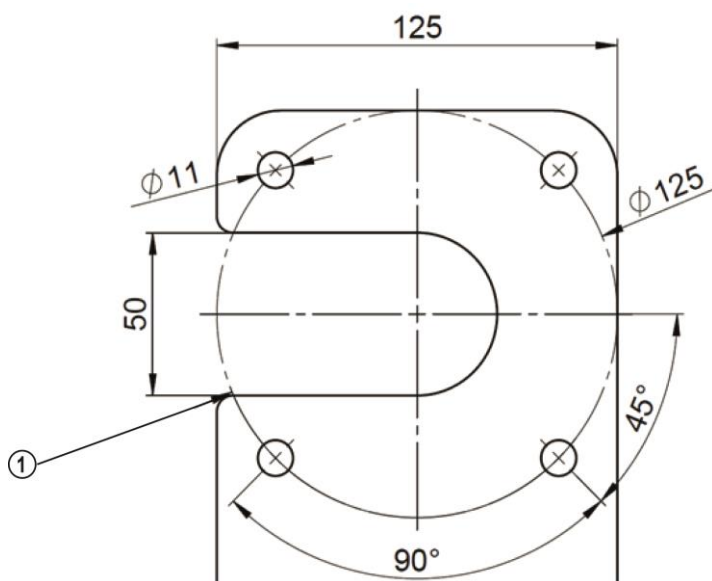

Fig. 2 Drill pattern
- Screws to be used: M10 screws (4), hardness class 8.8 or higher. Tightening torque: 24 Nm
- Use a mounting flange matching the drilling pattern (see Fig. 2). The cutout (50 mm) is required for the cable collar.